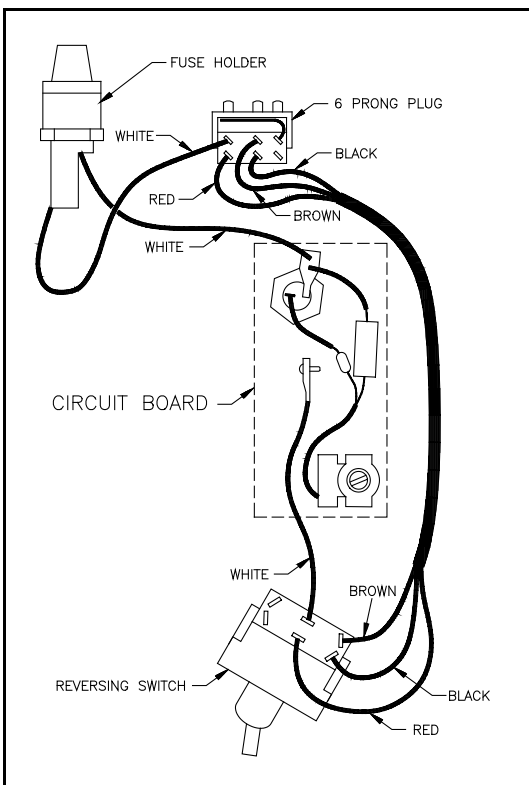
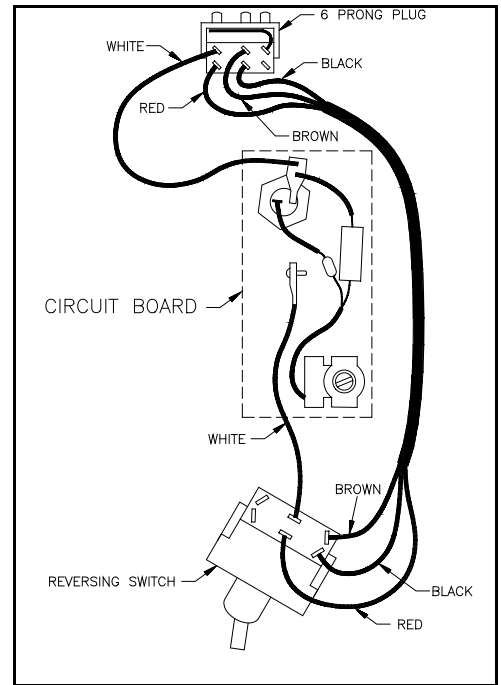

Figure 2. Wiring diagram
Figure 3. Wiring diagram - no fuse
- 4.6 Connect the white wire that comes from the triac to the fuse holder. Make sure the white wires are connected to the fuse holder as illustrated in Figure 2. (If the foot control does not have a fuse, cut the connector from the end of the white wire. Strip the wire 3/16" and solder it to the terminal of the six prong plug. See Figure 3.)
- 4.7 Connect the white wire that comes from the heat sink (brass bracket) to the correct terminal on the reversing switch. See Figure 2 or 3.